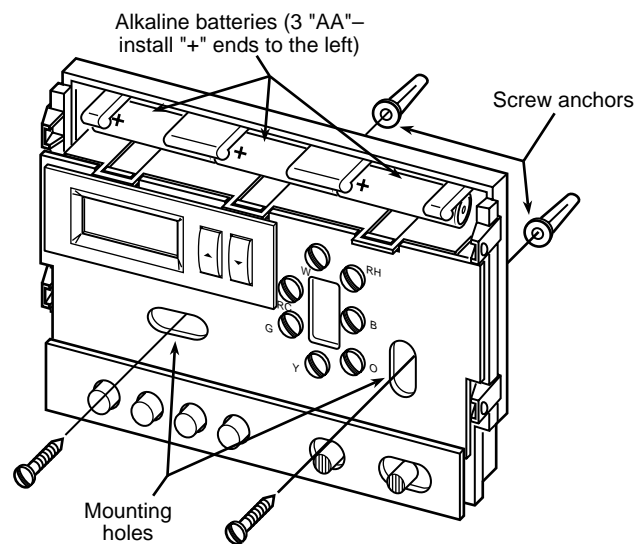

Figure 2. Thermostat base
5. Fasten base loosely to wall, as shown in fig. 2, using two mounting screws. Place a level against bottom of base, adjust until level, and then tighten screws. (Leveling is for appearance only and will not affect thermostat operation.) If you are using existing mounting holes, or if holes drilled are too large and do not allow you to tighten base snugly, use plastic screw anchors to secure subbase.
If the word **BATTERY** is displayed, the batteries are low and should be replaced with fresh "AA" Energize® alkaline batteries. To replace batteries, install the batteries along the top of the base (see fig. 2). The batteries must be installed with the positive (+) ends to the left.